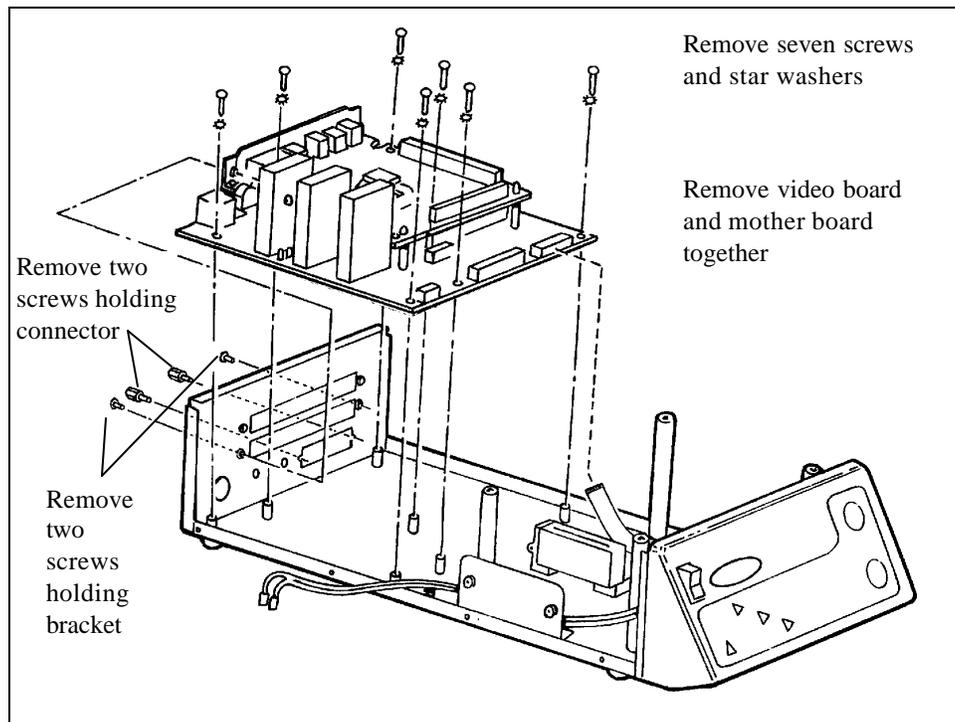

Figure 4- 4 Video board & mother board removal
3. Remove two M3 x 12 Phillips-head screws with star washers and two M3 flat washers which secure the video board bracket to the rear of the chassis panel. (Figure 4- 4)